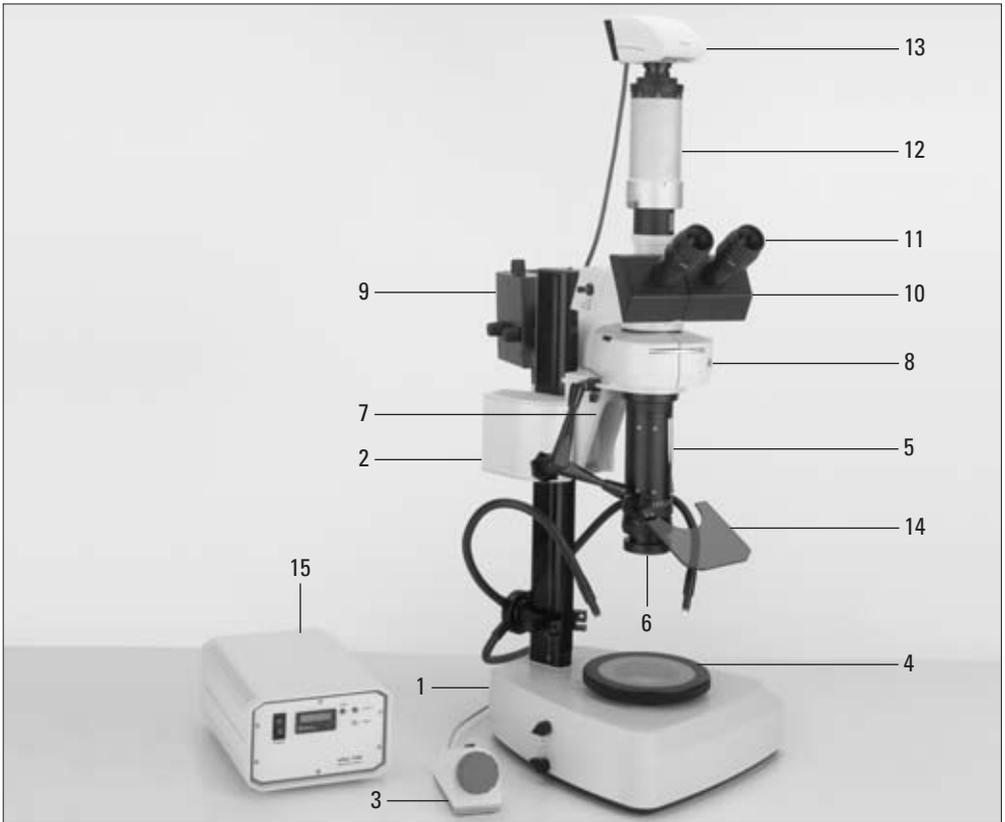

Fig. 1 Leica MacroFluo™ with zoom system 16:1
Example (1.8): Figure 1 is found on Page 3 and item 8 is the coaxial incident illuminator.